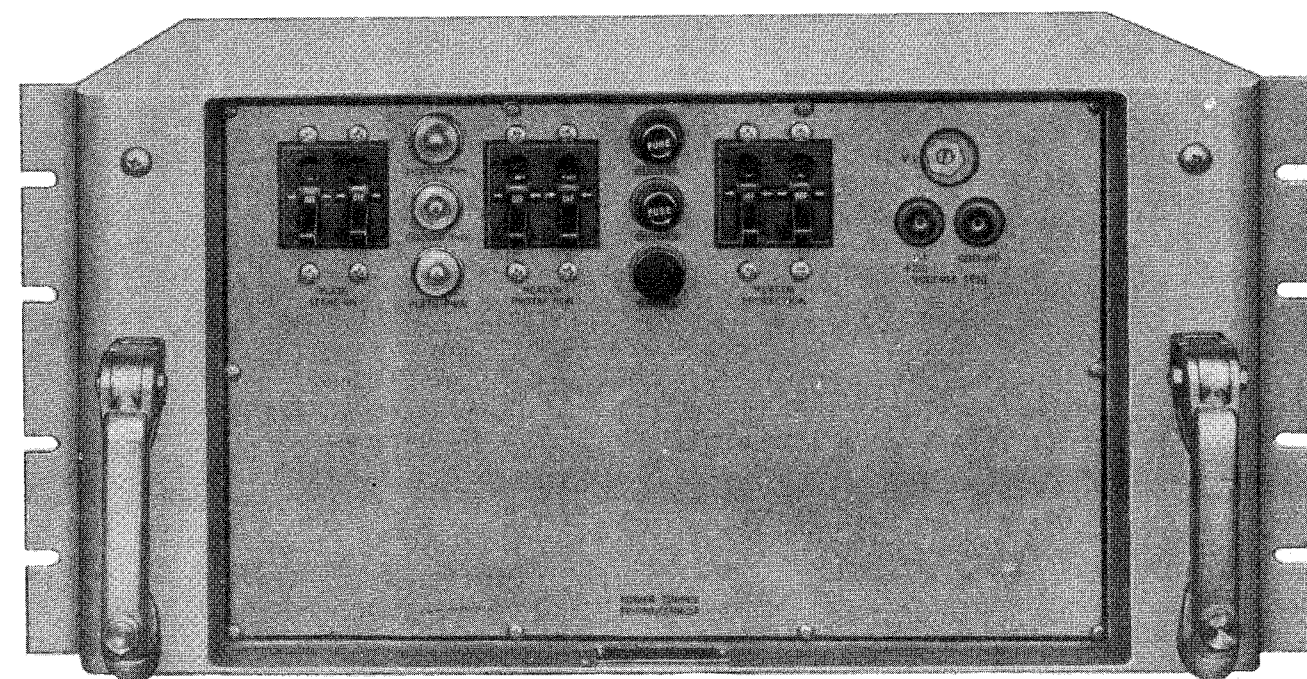

Figure 1-26. Power Supply PP-590/FRR-24
(14) POWER SUPPLY PP-590/FRR-24. (See Figures 1-26 and 1-27).—The Power Supplies are twelve-tube electronically regulated units utilized to provide all necessary voltages for bays 1, 2 or 3 of the AN/FRR-24. Two Primary Tap switches, one in the plate transformer and one in the filament transformer, are provided to permit operation from an A.C. supply of 105/115/ or 125 volts, 50/60 cps.